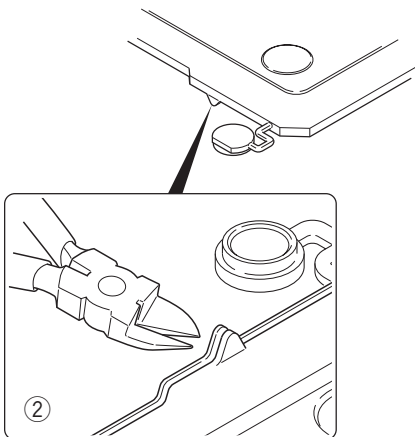

Fig. 8-3
**Note :** If the GPS receiver is installed, cut the base of the convex tab of the top packing with a pair of nippers, or similar tool. (Fig. 8-3 ②)